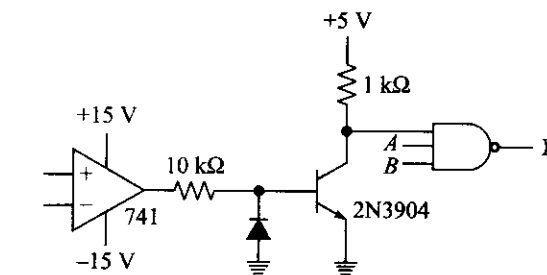

Fig. 14.29 Op amp and transistor drive for TTL input
load. Figure 14.29 shows one way to use the output of a 741 to control a TTL input. The output of the OA ideally swings from +15 to -15V. The positive swing closes the transistor switch, producing a TTL input of approximately 0 V. The negative swing drives the transistor into cutoff, producing a TTL input of +5V.
16. What factors influence the size of the resistor in Fig. 14.29?